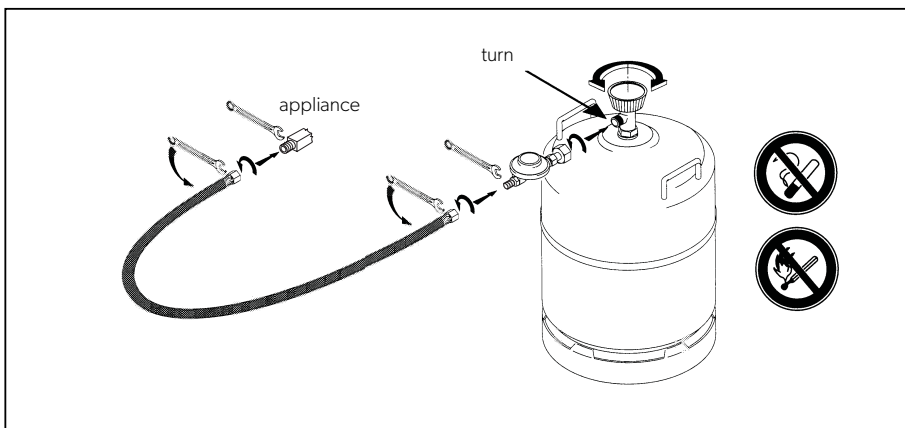

Figure 8.
- When fitting the gas hose from the pressure regulator to the appliance be sure to use two spanners one to hold the gas connection at the back of the appliance to avoid straining and possible damage.(Fig. 8)